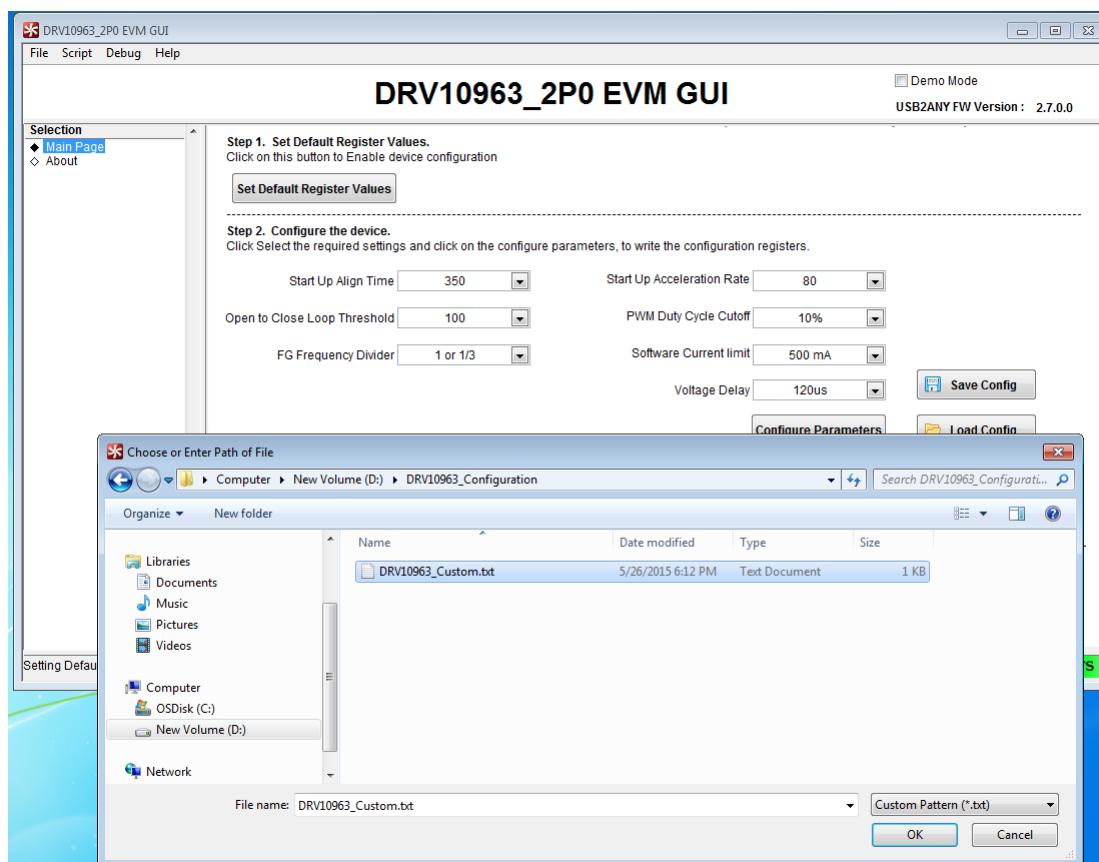

Figure 18. Load Custom Configurations to GUI
2. As a first step to program the OTP, launch the GUI and left click "Set Default Register Value", that is, step 1. Load the custom configuration as shown in Figure 18 from the stored directory on your PC.